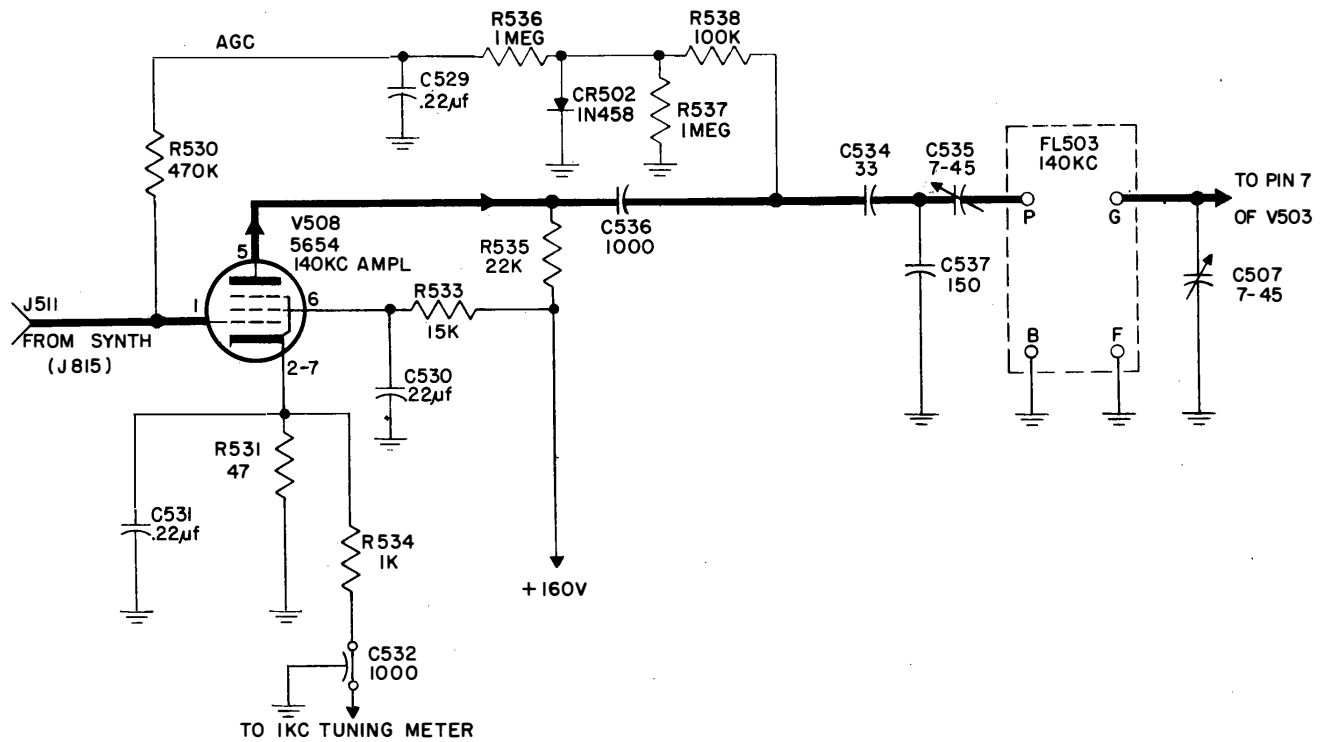

Figure 4-15. 140 Kc Amplifier, Simplified Schematic Diagram
f. 140 KC AMPLIFIER.—The 140 kc signal from the synthesizer to the injection IF amplifier is supplied through connector J511 (figure 4-15). The 140 kc signal is amplified by V508 and applied to bandpass filter FL503 through capacitors C534, C535, and C536. The output signal from V508 is applied also to AGC diode CR502. Diode CR502 shunts the positive half-cycle of the V508 output signal to ground but permits the negative cycles to pass on to an RC filter network comprised of R536, C529, and R530. The negative voltage from the RC network is applied to the control grid of 140 kc amplifier V508. AGC action is thereby achieved in that a proportionate negative voltage corresponding to the output signal amplitude of V508 is developed and fed back to the control grid of V508. Provisions for monitoring the plate current are provided in the cathode circuit of V508. This feature is used when the receiver is tuned (TUNING control).